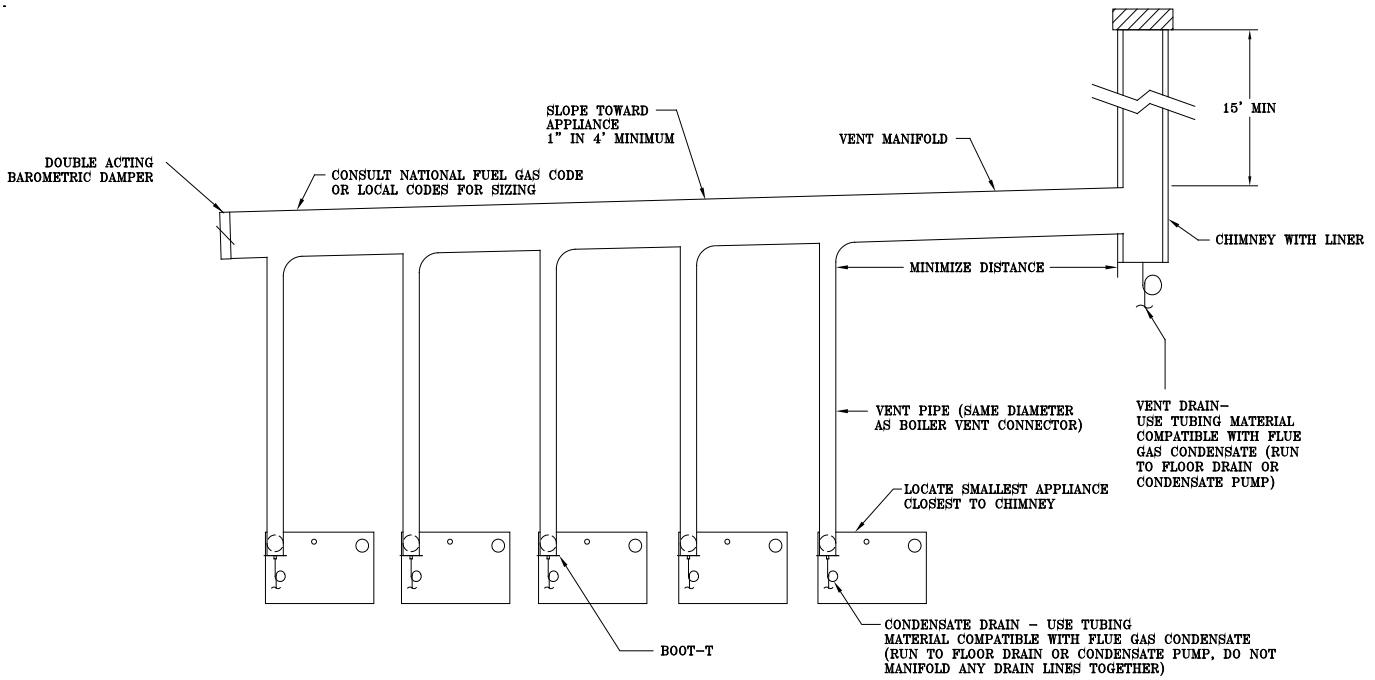
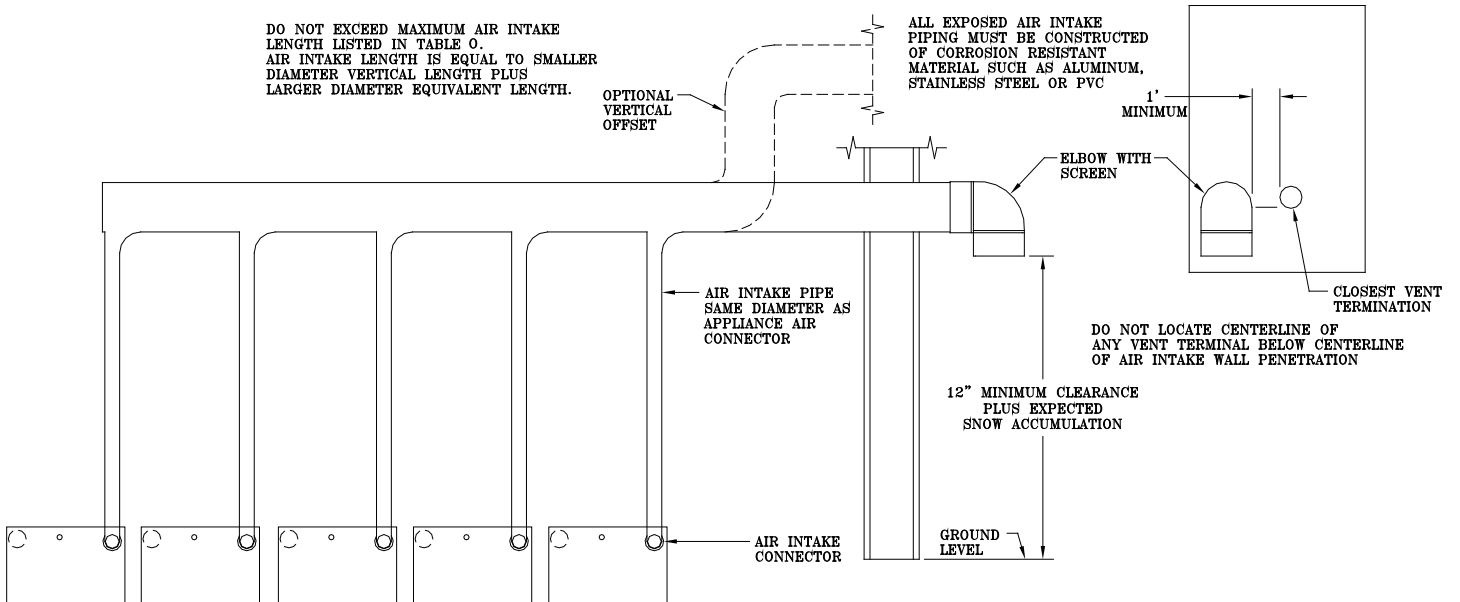

Figure 17: Modular Water heater Conventional Venting
Figure 18: Modular Water heater Horizontal Air Intake Piping
- a. Refer to Figure 17 for conventional venting guidelines for modular water heaters.
- c. A single double acting barometric damper can be utilized on the common venting when venting according to Figure 17.
- d. Slope common venting a minimum of one (1) inch in four feet of run towards water heaters.
2. Refer to Figures 18 and 19 for common air intake guidelines for modular water heaters.